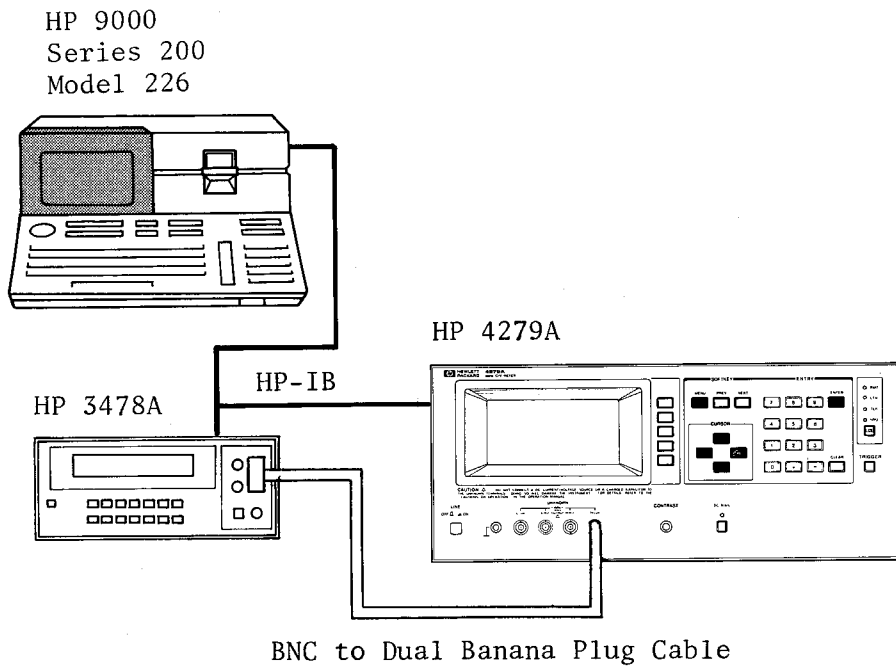

Figure 1-8. DC BIAS Voltage Output Calibration Setup
5. Connect the Digital multimeter to the 4279A's **Hcur** Terminal as shown in Figure 1-8.